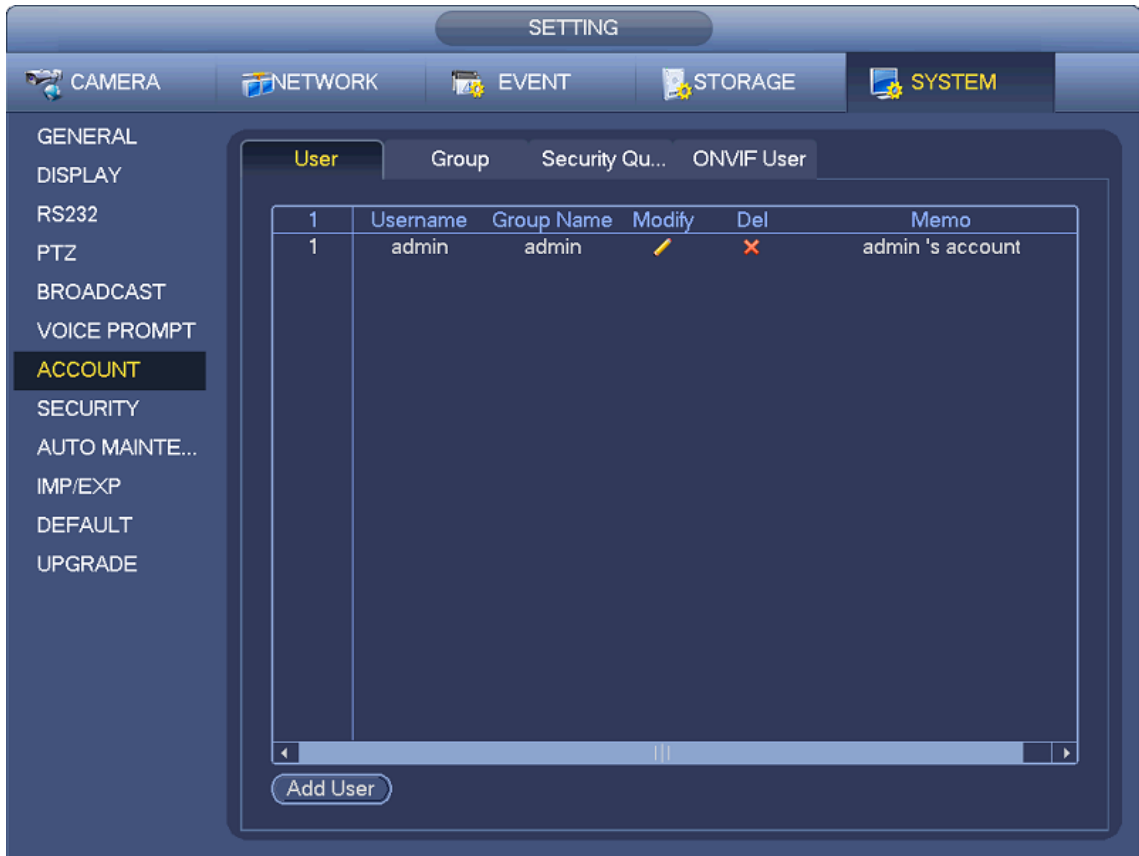

Figure 4-220
Enter user interface. See Figure 4-220.
- Step 2 Click Add user button in Figure 4-220.